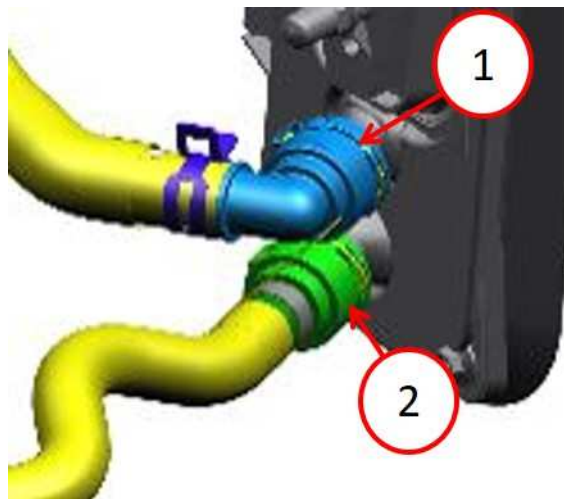

Fig. 3
5. Connect the heater supply hose (**Straight Connector**) to the **bottom pipe** of the heater core (**Fig. 3**) .
6. Connect the heater return hose (**90 Degree Connector**) to the **top pipe** of the heater core (**Fig. 3**) .